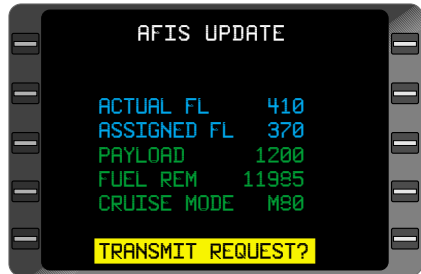

Figure 7-36
**TRANSMIT REQUEST:** When cursor is over this field and **ENTER** is pressed, the update request is sent via the data link. (Figure 7-36)